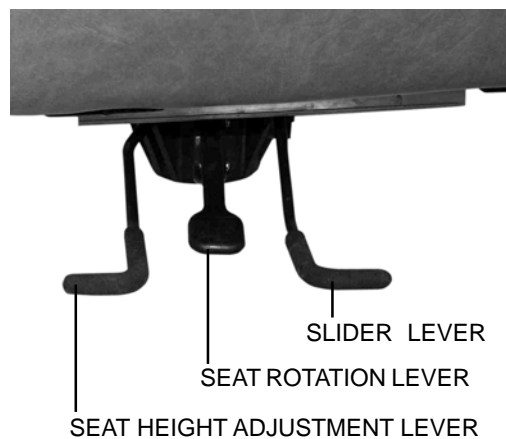

Figure 15. Seat Adjustments
1. To raise the seat, pull upward on the seat height adjustment lever while taking your weight off of the seat. See figure 15.
1. Pull up on the seat rotation lever to unlock the seat. See figure 15.